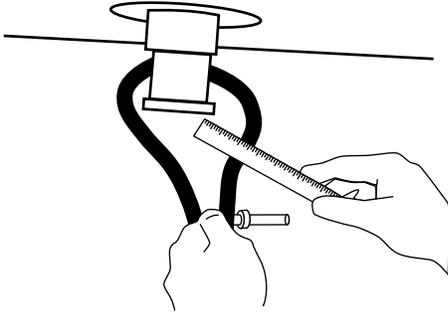

Figure 1. Measuring Kingpin
2. Check the kingpin for wear or damage. Replace it if the diameter measures less than 1 7/8" at any point (see figure 1).